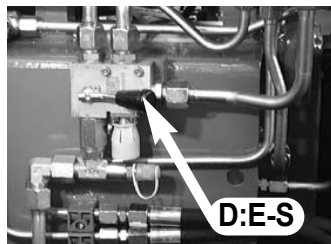

fig. 15b
- Position lever **D** of oil diverter crane-outriggers ( - **E/S**) on **E/S**. Fig. 15b
- Position lever **D** of oil diverter crane-outriggers (? - **E/S**) on **E/S**. Fig. 15b